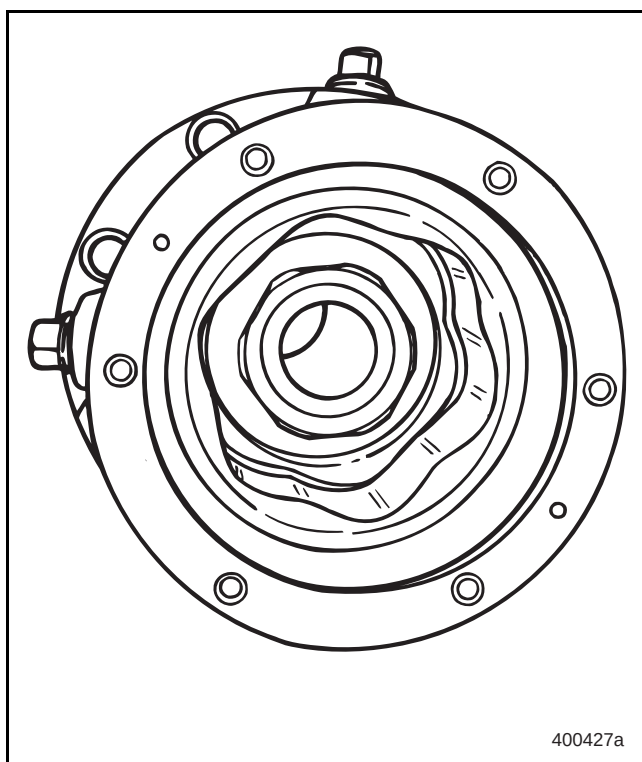

Figure 189 — Correctly Assembled Bevel Pinion
16. After tightening the nut to the correct torque, the assembly should look like the illustration in Figure 189.